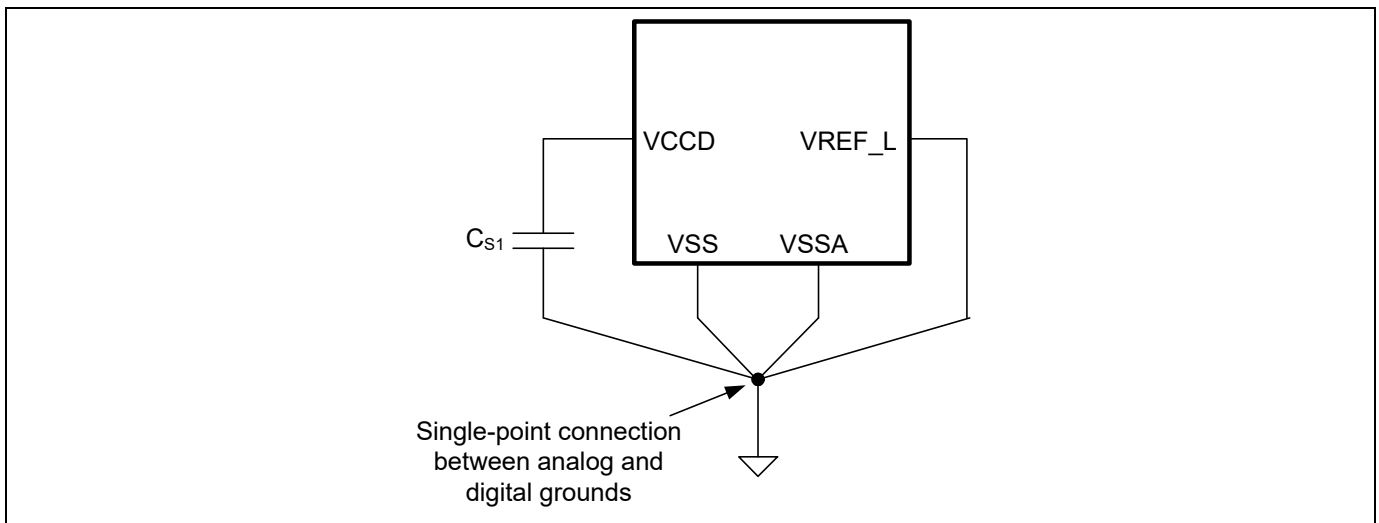

Figure 26-2 Smoothing capacitor
49. Smoothing capacitor,  $C_{S1}$  is required per chip (not per  $V_{CCD}$  pin). The  $V_{CCD}$  pins must be connected together to ensure a low-impedance connection (see the requirement in Figure 26-2).